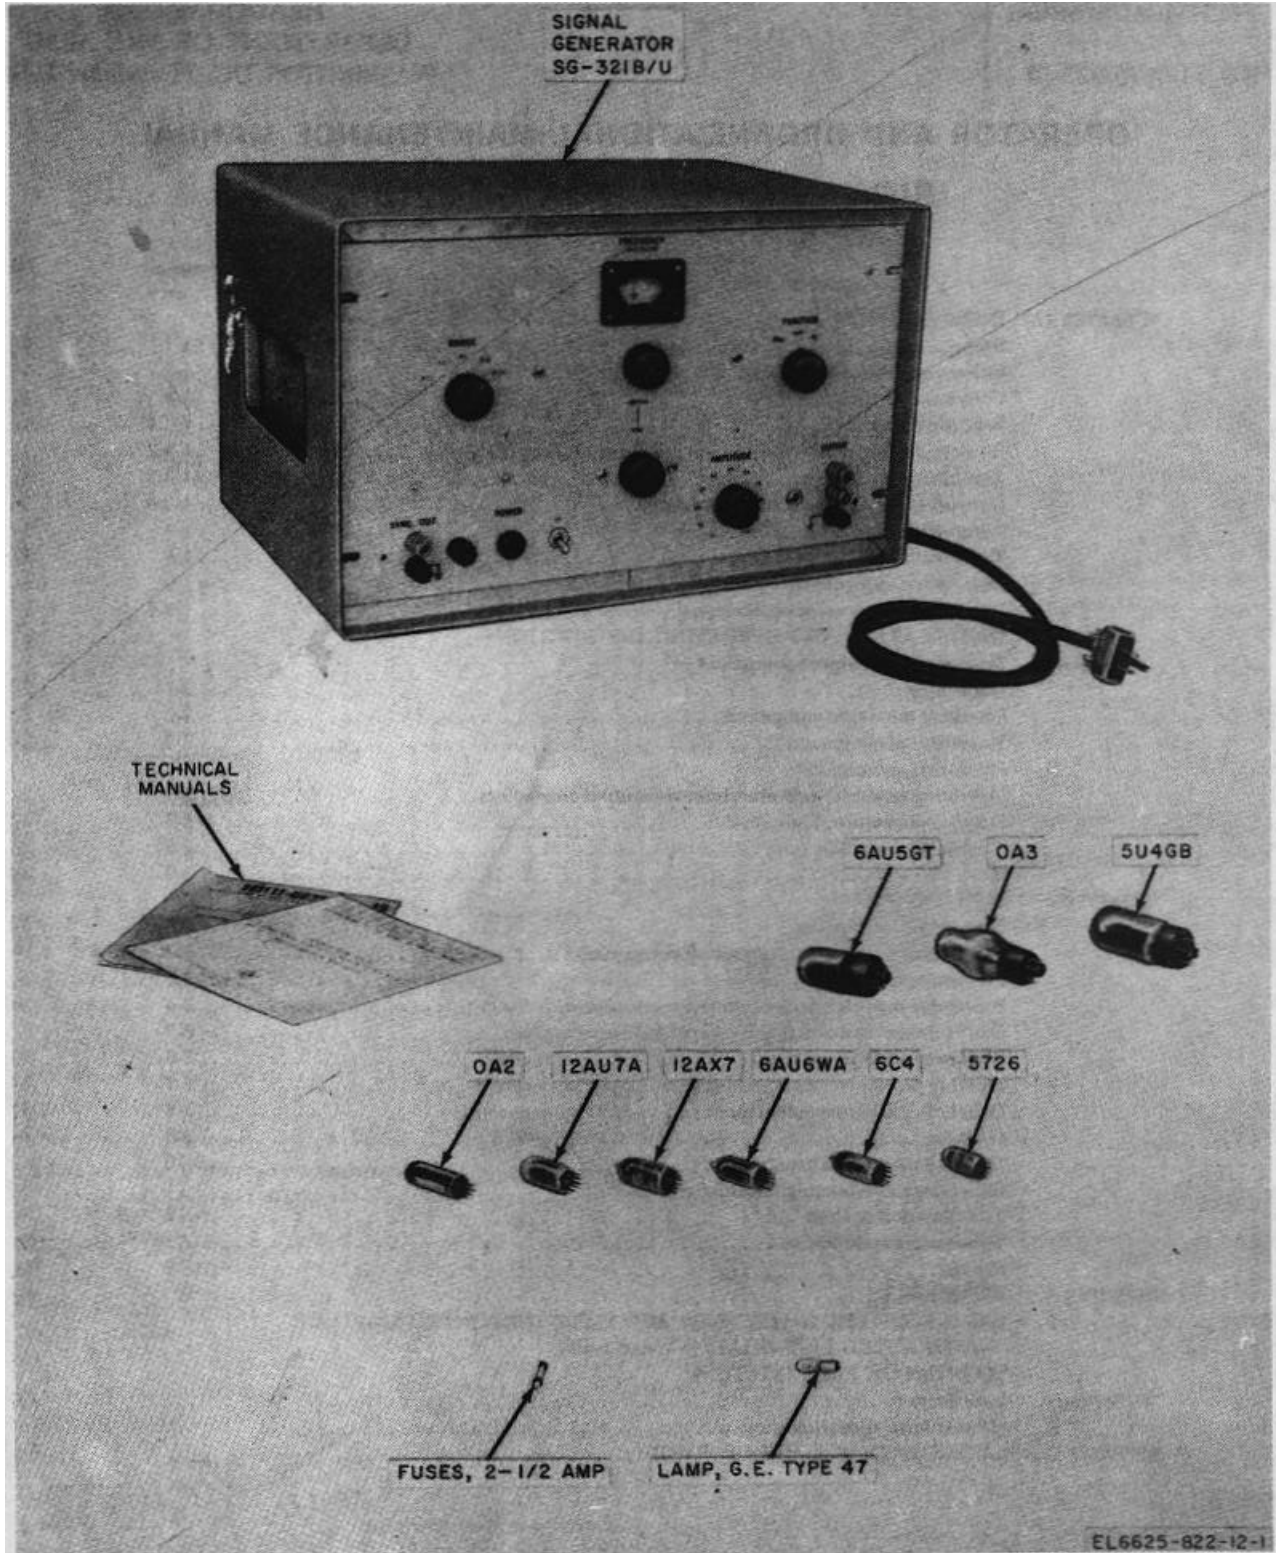

Figure 1-1. Signal Generator SC-321 B/U and running spares.
a. This manual describes Signal Generator SG-321B/U (fig. 1-1) and provides instructions for operation and operator and organizational maintenance. It includes instructions for cleaning and inspection of the equipment and replacement of parts available to the operator and organizational technician.